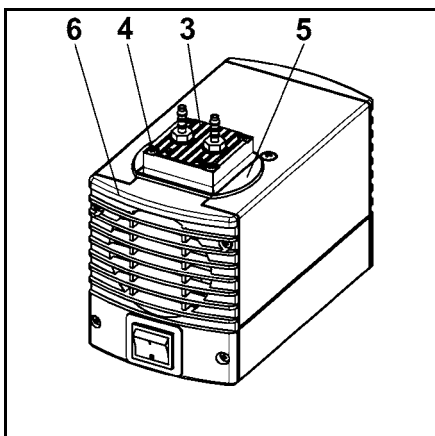
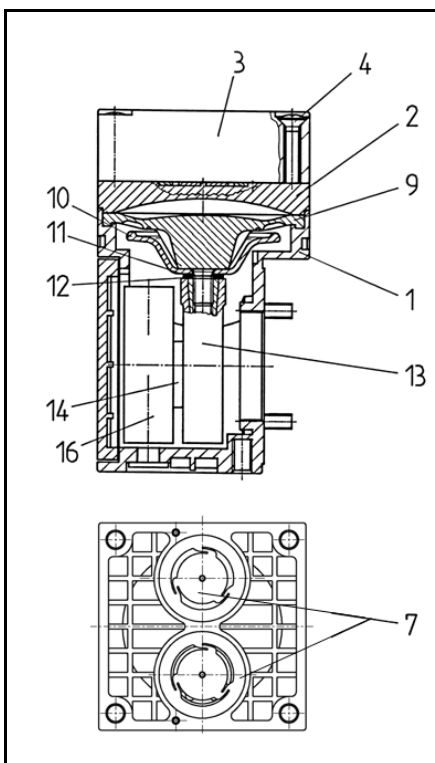

Fig. 4 Removing pump head
Fig. 5 Pump Head
1. Mark the position of head plate (Fig. 4 (3), cover (5) and cover plate (6) by a drawing line with a pencil. This helps to avoid incorrect assembly later.
2. Undo the 4 screws (4) in the head plate (3) and lift the head plate together with cover (5) off the pump housing.
3. Mark the position of intermediate plate (fig. 5 (2) and housing (1) relative to each other by a drawing line with a pencil.
4. Lift intermediate plate (2) off the housing (1).
1. Remove the valve plates/sealings (fig. 4 (7)) from the intermediate plate (2).
2. Check that the valve seats, the head plate (3) and intermediate plate (2) are clean. If scratches or distortion are evident on these parts they should be replaced.
3. Lay the new valve plates/sealings (7) in the recesses in the intermediate plate (2). The valve plates/sealings for suction and pressure sides are identical, as are upper and lower sides of the valve plates/sealings.
4. Check that the valve plates/sealings (7) are not deformed by moving them gently sideways in their recesses.
1. Place the intermediate plate (2), with valve plates/sealings (7) on the housing, in the position indicated by the drawing line.
2. Place the head plate (3) with cover (fig. 4 (5)) on the housing (fig. 5 (1)), in the position indicated by the drawing line.
3. Check that the head plate (3) is centred by moving it gently sideways.
4. Tighten the screws (4), evenly and diagonally, first gently, then firmly.